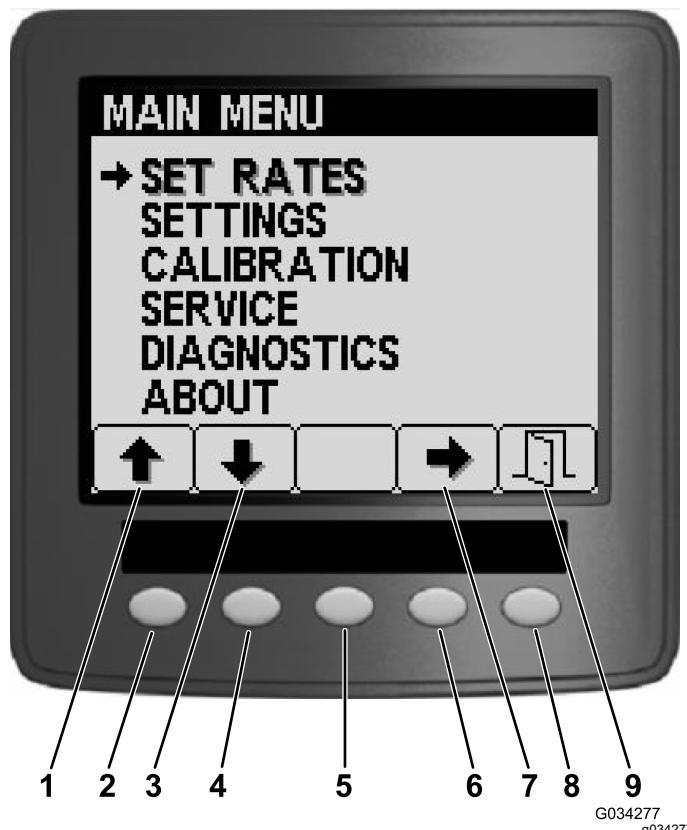
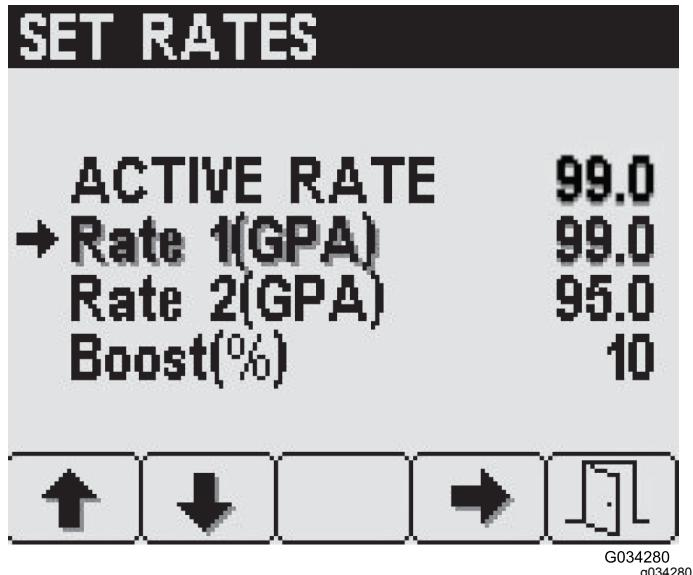

Figure 16
Figure 17
From the Main Menu screen, you can access the Set Rates screen, Settings screen, Calibration screen, Service screen, Diagnostics screen, or the About screen (Figure 16).
To access the Set Rates screen, press button 2 on the Main Menu screen (Figure 16) until you reach Set Rates and press button 4 to select Set Rates (Figure 17).
1. Press button 1 or 2 until you reach the desired rate or boost-rate percentage (Figure 17).
To access the Settings screen, press button 2 on the Main Menu screen (Figure 16) until you reach Settings and press button 4 to select Settings (Figure 19).